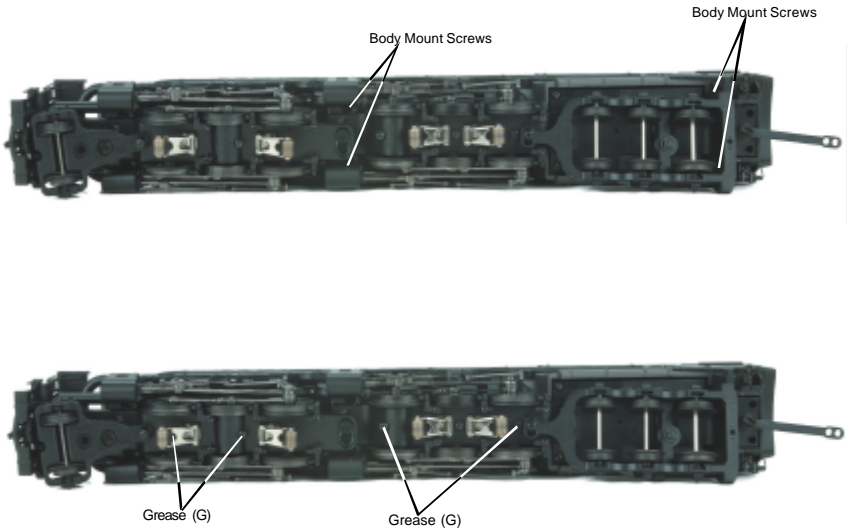

Figure 6: Removing The Body And Lubricating The Grease Points
2. Remove the Phillips screws (marked “GREASE”) located at each set of wheels and under pick up rollers (Fig. 6).
You should also grease the leading and trailing locomotive truck tongues to enhance their ability to slide on the chassis. Follow the grease points shown on Fig. 6.